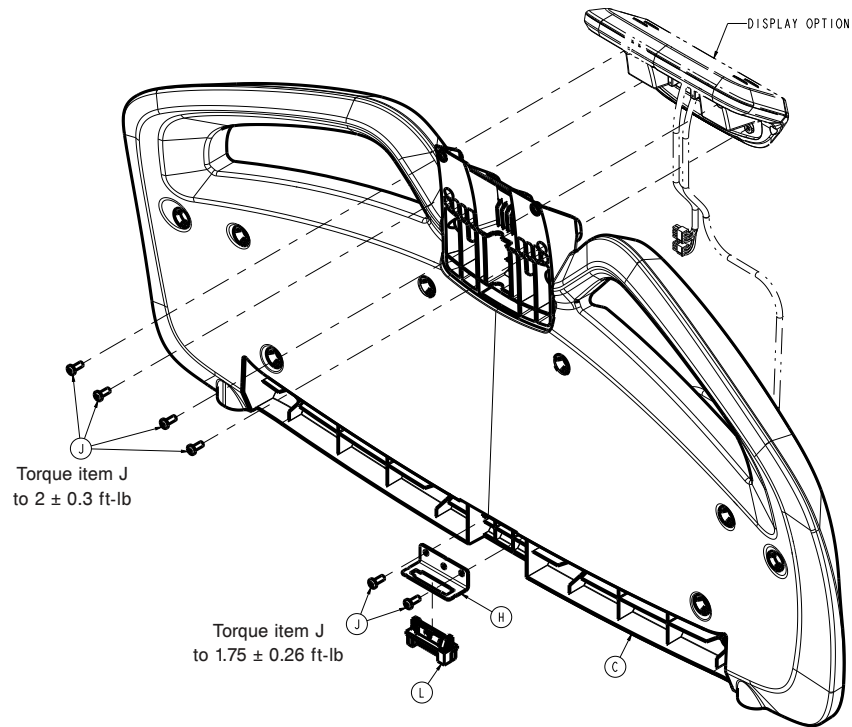

Figure 21 – Footboard housing
- Using a T25 Torx driver, remove the four screws (J) that secure the display housing to the footboard (Figure 21). Let the display housing hang.